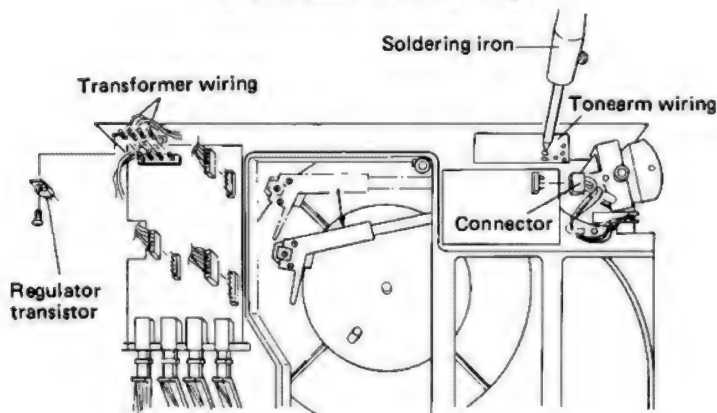

Fig. 5-4 Escutcheon Cover Removal
4. The transformer wiring, the tonearm wiring, and the connector leads are located behind the escutcheon cover. Remove the transformer wiring wrapping, disconnect the tonearm wiring solder, and then disconnect the connectors. Finally, undo the regulator transistor screw (Fig. 5-4).